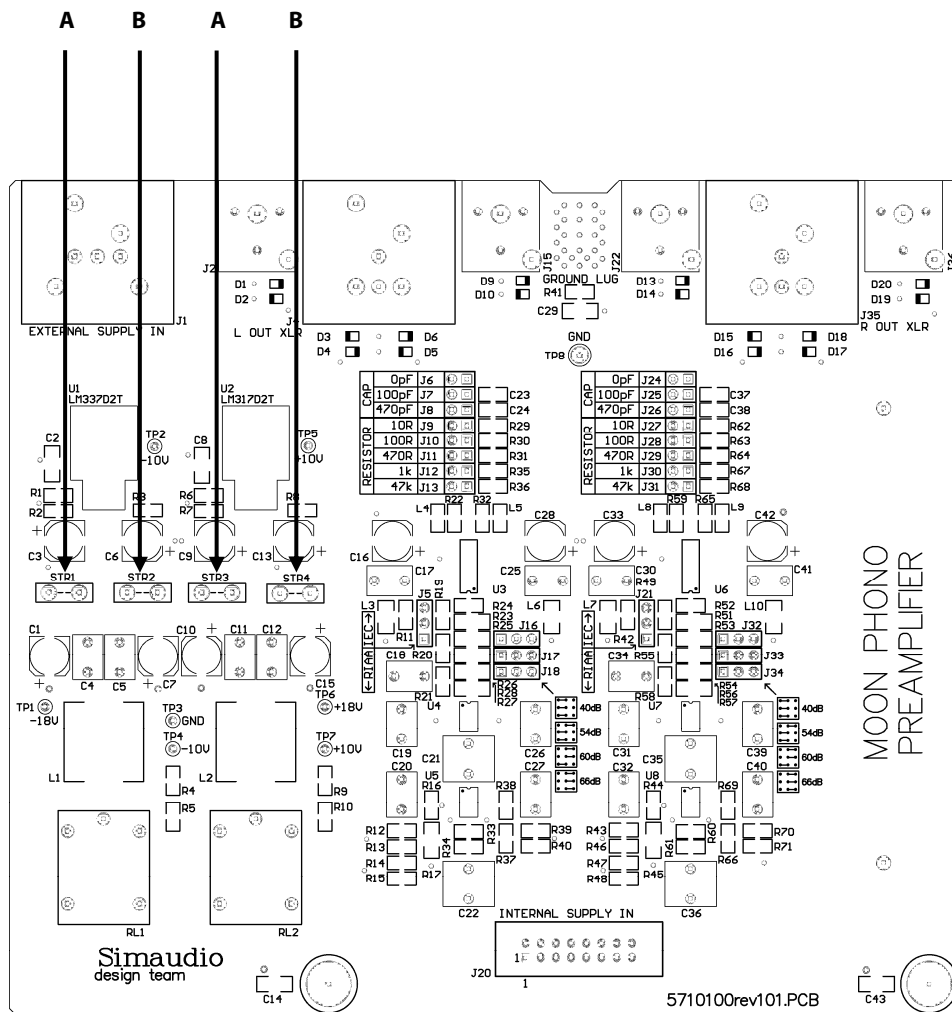

Figure 11: MOON 310LP Circuit Board layout
The **MOON 310LP Phono Preamp** can be operated with the optional **MOON 320S Power Supply** (purchased separately). Referring to figure 11 below, you will see an array of four (4) jumper sockets labeled STR1, STR2, STR3 and STR4. The factory default position for the 2 jumpers is in sockets STR2 and STR4 (positions B in figure 11). To properly use the **MOON 310LP** in
conjunction with the **MOON 320S**, you will need to move these 2 jumpers into sockets STR1 and STR3 (positions A in figure 11). For further details, please refer to your **MOON 320S** owner's manual. **Failure to make these adjustments may cause damage that is not covered by warranty.**
sockets STR2 and STR4 (positions B in figure 11). You should NOT move these jumpers from their factory default position.